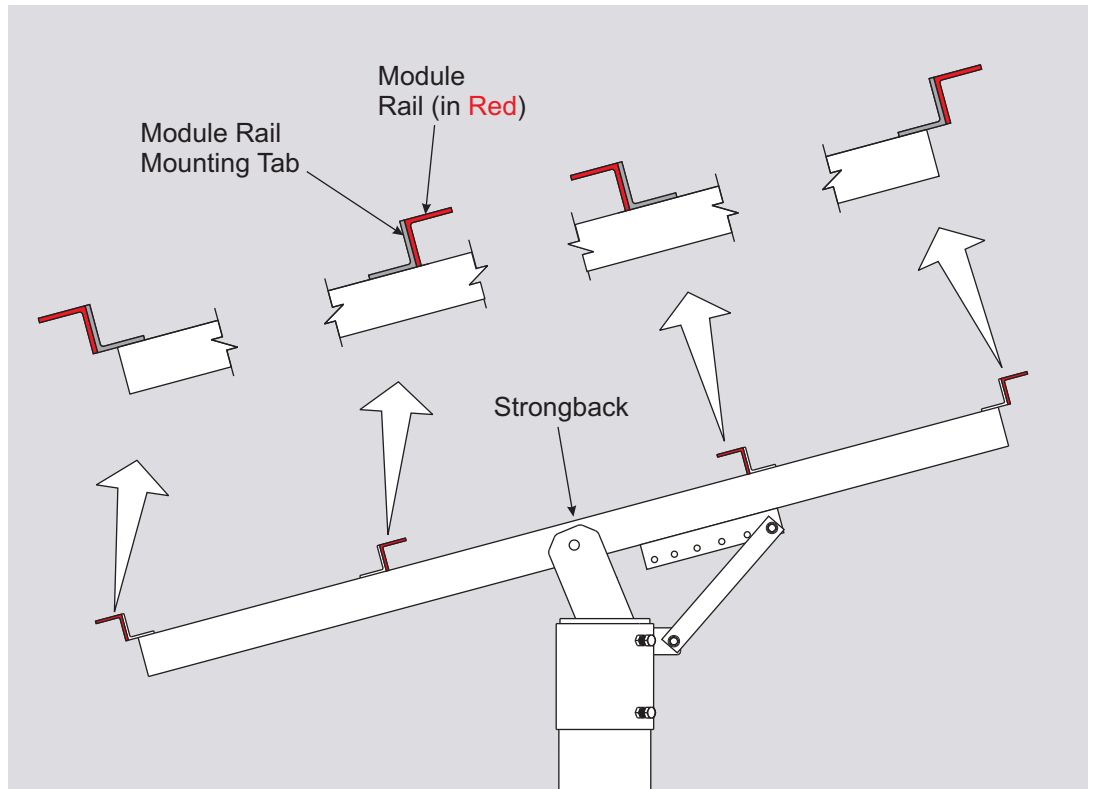
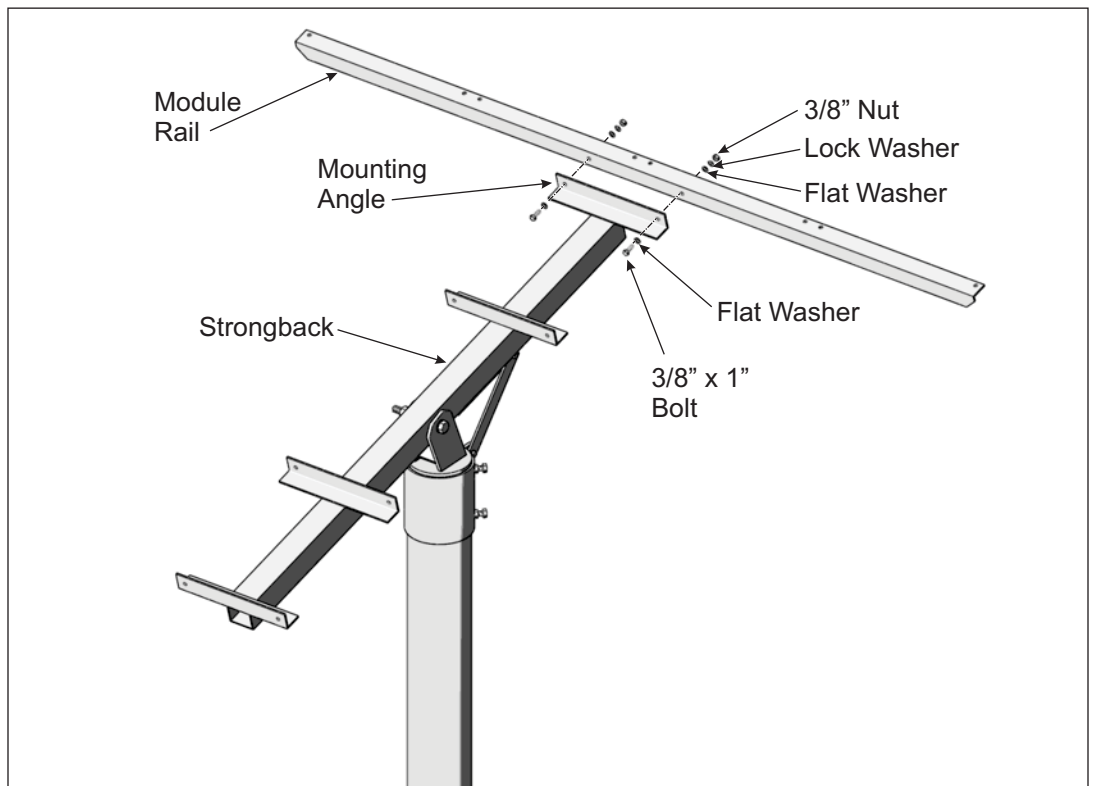
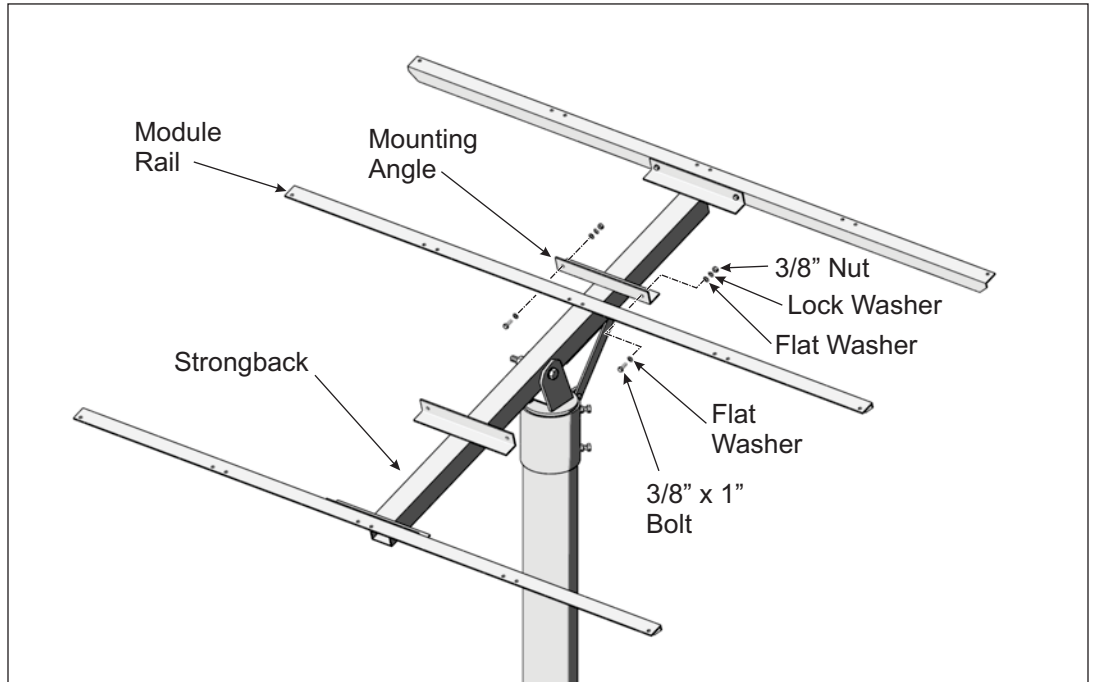

Figure 3-1: Module Rail Positioning relative to Mounting Angles
Figure 3-2: Installing Outboard Module Rails to the Strongback
Figure 3-3: Installing Inboard Module Rails to the Strongback
Module Rails run in an E-W direction and are secured to the Strongback mounting angles using 3/8" x 1" bolts and hardware. There are four Module Rails to be installed. Module Rails are installed differently depending on whether they are mounted outboard or inboard on the Strongback. (See Figure 3-1)
- A. Referring to Figure 3-1 for orientation of the outboard Module Rails, position the first section of Module Rail. Align the Module Rail mounting holes with the holes of the Strongback mounting angles and secure with 3/8" x 1" bolts and hardware; each Module Rail has two attachment points. Finger-tighten for now. (See also Figure 3-2)
- B. Now install the opposite outboard Module Rail following the above procedure. Refer to Figure 3-1 as needed for orientation of the Module Rail.
- A. Referring to Figure 3-1 for orientation of the outboard Module Rails, position the Module Rail aligning the mounting holes with the holes of the Strongback mounting angles and secure with 3/8" x 1" bolts and hardware; each Module Rail has two attachment points. Finger-tighten for now. (See Figure 3-3)
- B. Now install the opposite inboard Module Rail following the above procedure. Refer to Figure 3-1 as needed for orientation of the Module Rail.